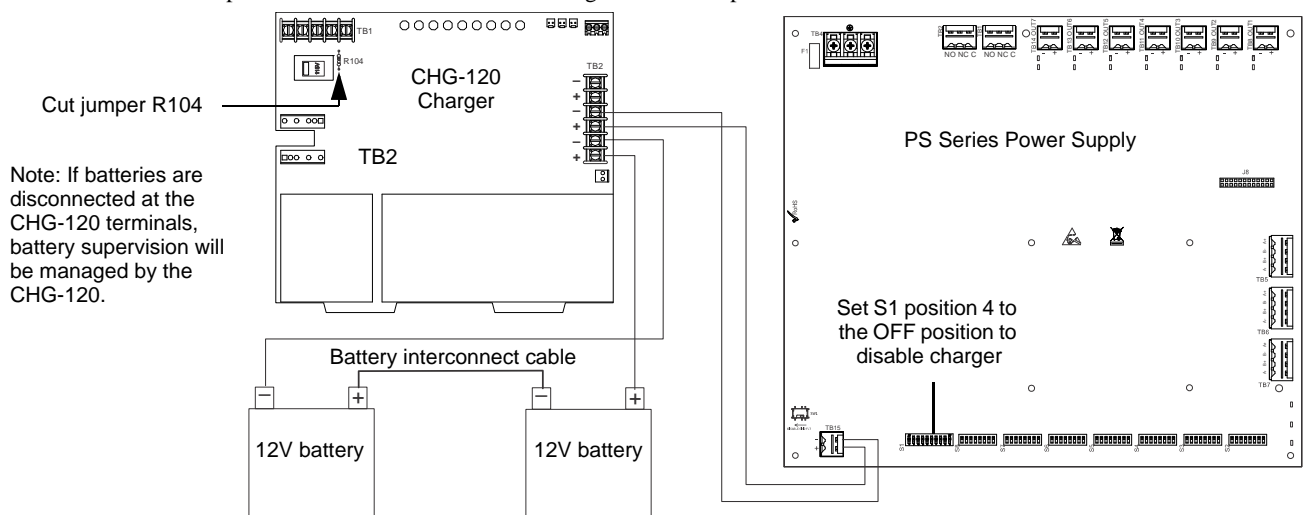

Figure 2.9 Connecting the Power Supply to a CHG-120 Charger
2. Connect the battery cables between TB15 (+ and –) on the HPF-PS and the CHG-120 charger output circuit (TB2: Out 1+ and Out 1–) as shown in Figure 2.9. Be certain to observe polarity.